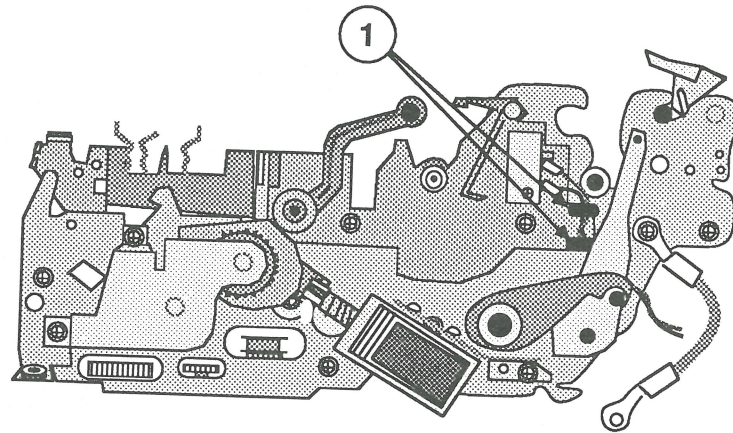

FIGURE 40
2. Route the cable through the cable clips on the paper bail/platen bracket (Figure 40, #1).